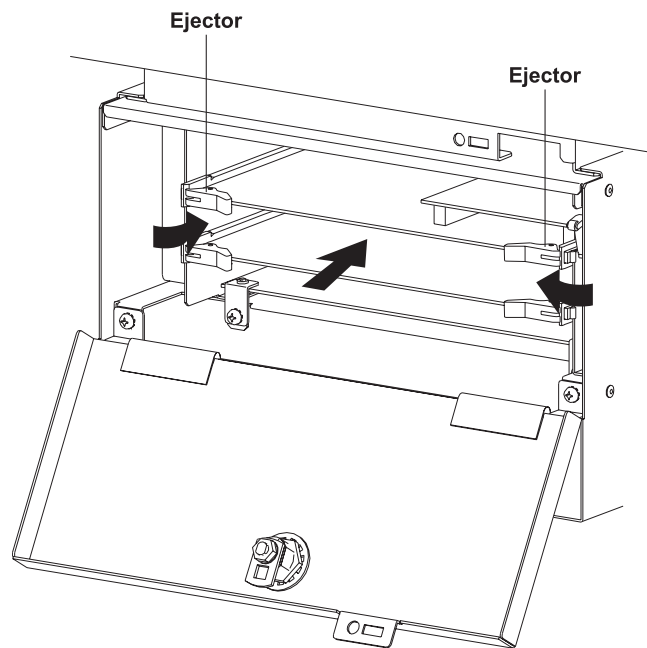

Figure 4-18 Installing the MCU2 or IFU2 Circuit Boards
1. Align both sides of the board with the guide rails (see *Figure 4-18 Installing the MCU2 or IFU2 Circuit Boards*) in the security cage to insert the board.